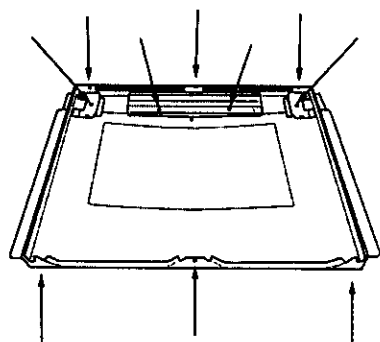

Figure 2-2
2. Remove the three screws at the top and the three at the bottom of the door, see **Figure 2-2**.